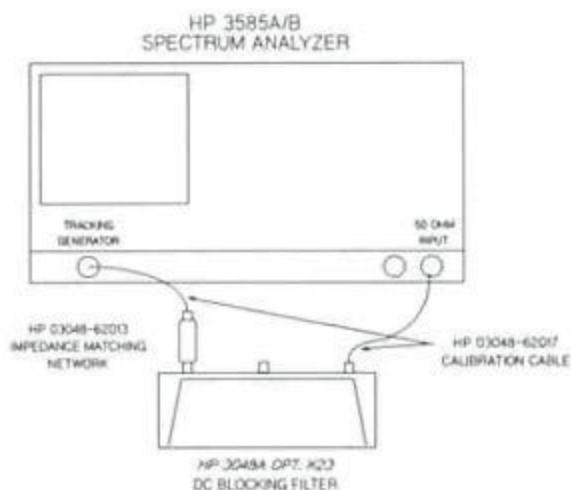

Figure 3-2. Setup for Flatness Test with HP 3585A/B
7. Replace the Calibration Load with the Opt. K23 DC Blocking Filter as shown in Figure 3-2.